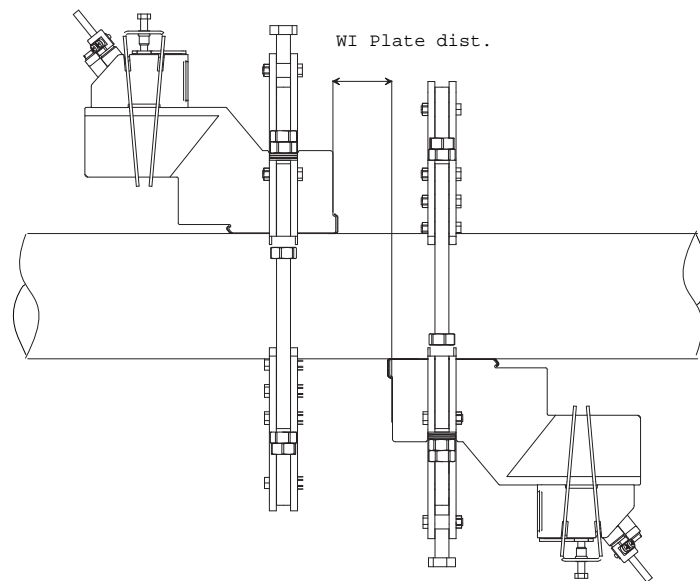

Fig. 3.10: Mounting of the second coupling plate to the pipe mounting fixture (mounting with threaded rods)
- Push the second coupling plate with the mounted transducer in the second pipe mounting fixture (see Fig. 3.10).
- Adjust the coupling plate distance $WI \text{ Plate dist.}$ (see Fig. 3.10).